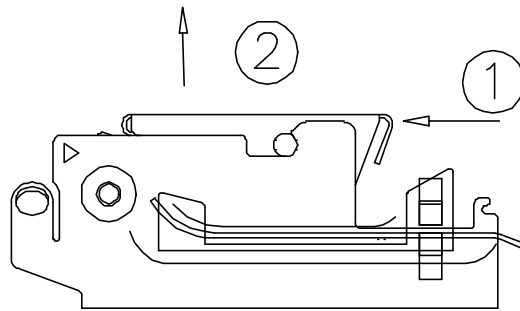

Figure 7-1 Unlock the Printhead
4. Refer to Figure 7-1.
2. Once the rear of the assembly is unlocked, lift the front of the printhead assembly (Figure 7-1), and remove the paper stock.